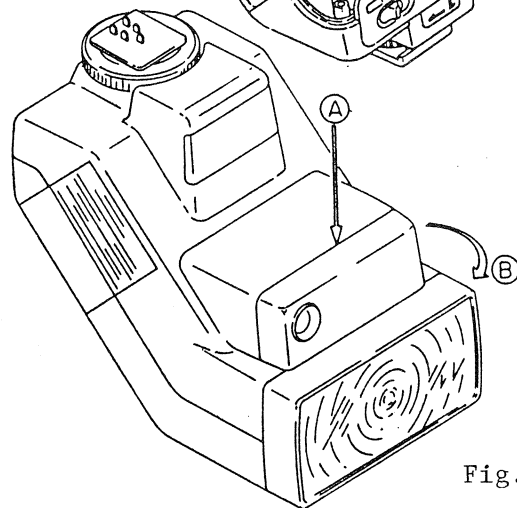

Fig. 13
- 4.2 To remove the preflash IR window (CA4-471), slip something thin in at [A] (Fig. 13) to release the claws and twist off in the [B] direction.